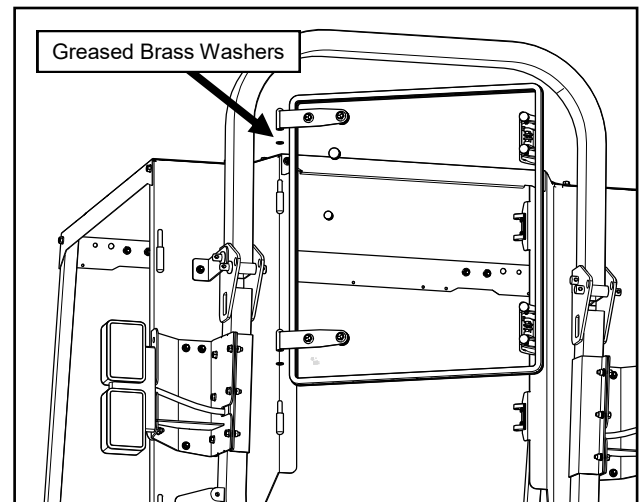

Fig. 11.2 (Install the Rear Window)
11.2 Hang the rear window. See Figure 11.2.